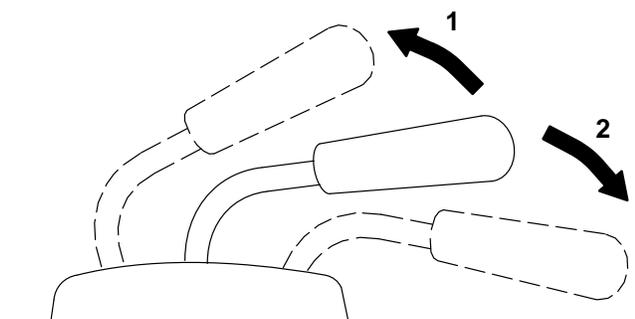

Figure 20
2. Pull the lift lever UP to raise the attachment (Fig. 20). This will lift and hold the attachment in the raised position.
2. Push the lift lever **DOWN** to lower the attachment (Fig. 20).